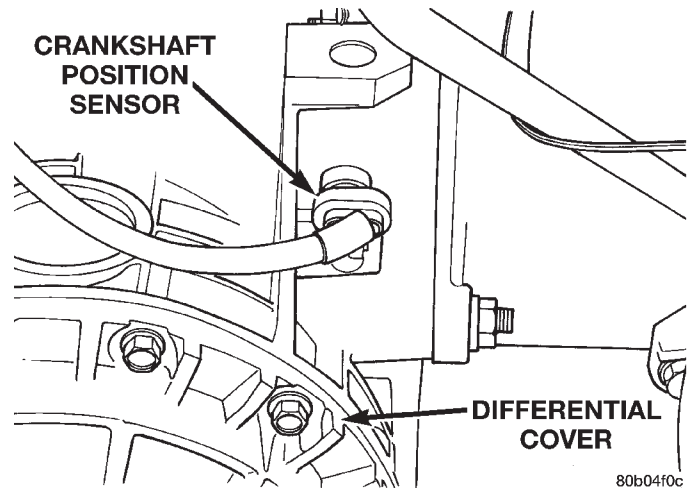

Fig. 43 Crankshaft Position Sensor Location
- (5) Remove engine air inlet tube.
- (6) Remove transaxle harness connectors at cowl area.
- (7) Remove upper bell housing stud nuts from bell housing studs. Detach heater hose tube and throttle body support bracket.
- (8) Remove upper bell housing studs.
- (9) Lift vehicle on hoist.
- (10) Loosen clamps at intersection of rear exhaust system to front catalytic converter pipes.
- (11) Separate rear exhaust from left catalytic converter pipe and right extension pipe.
- (12) Remove rear exhaust system.
- (13) Remove nuts retaining exhaust pipes to transmission mount.
- (14) Loosen clamp at right extension at right catalytic converter. Remove right extension.
- (15) Disconnect crankshaft position sensor connector and remove sensor (Fig. 43). The sensor is located on the upper right side of the transaxle bell housing.
- (16) Remove dipstick tube.
- (17) Disconnect the gear selector cable from the transaxle.
- (18) Disconnect transmission range sensor connector. Disconnect input and output speed sensor connector.
- (19) Disconnect and plug transaxle cooler lines at the transaxle.